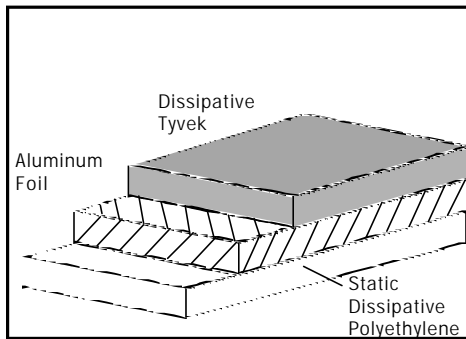
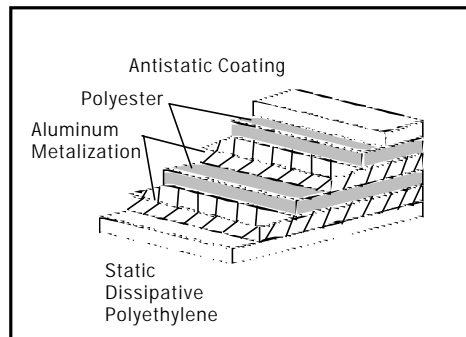

Figure 9. Structure of Foil Barrier.
Figure 10. Structure of Metalized Barrier.
**Construction:** This type of bag is physically stronger than a shield bag. Moisture barrier bags are similar in structure to the shield bags. The two types are "foil and tyvek" (figure 9) and "heavy metallization".(figure 10)